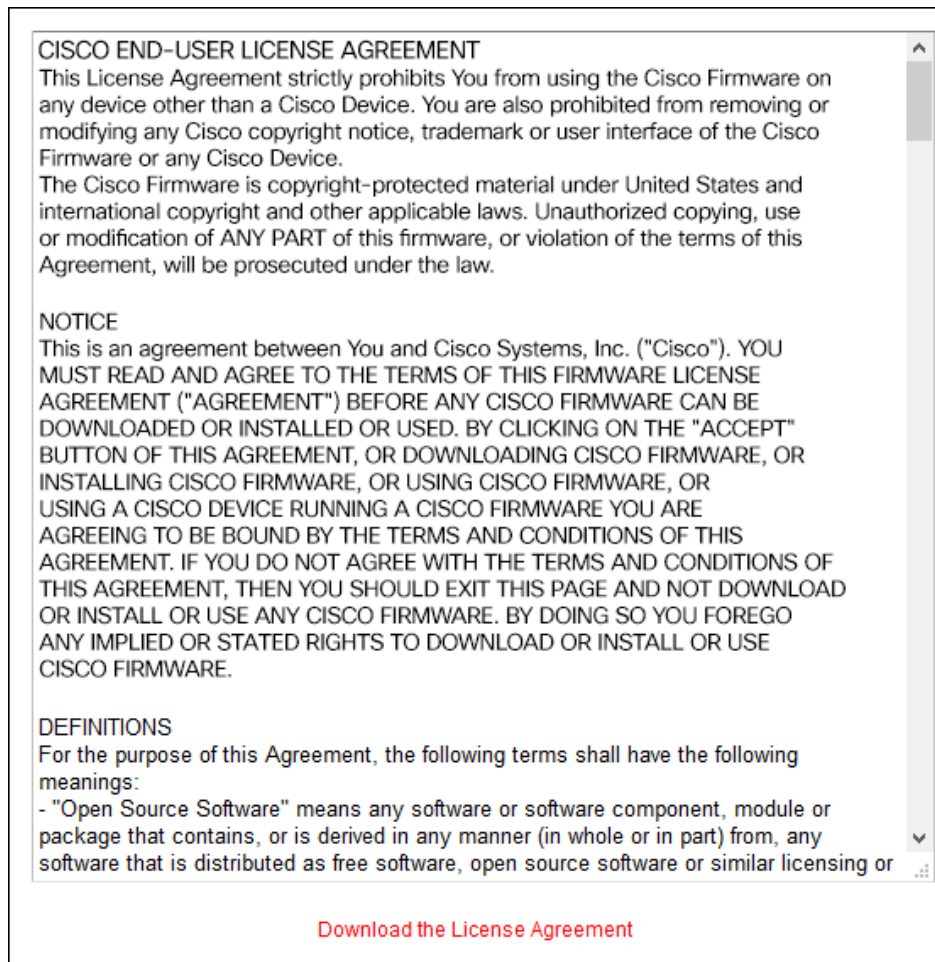

Figure 61. Configurator GUI (End-user license agreement)
- The license agreement dialog will be shown (Figure 61 (page 111)).